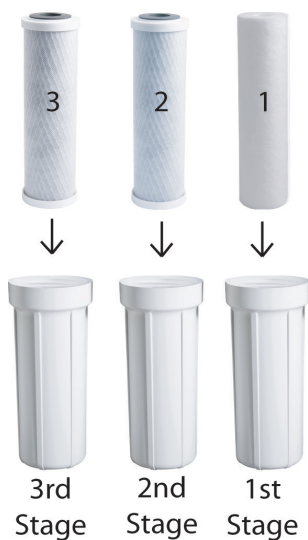

Fig. 2
1. **See Fig. 2** Stand the 3 housings upright. Make sure each housing has a rubber O-ring in its groove.